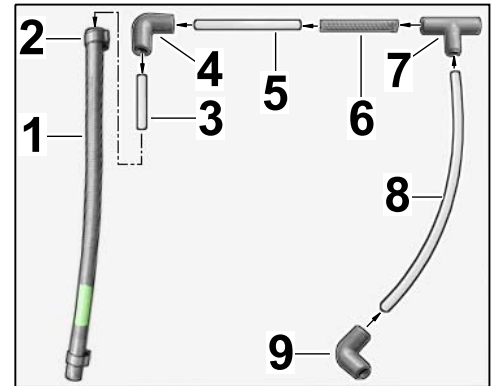

Figure 9
4.2.2 Connect components together as shown in Figure 9.